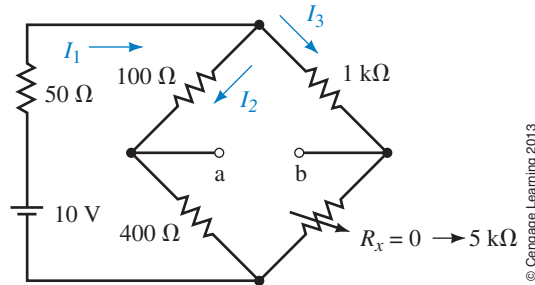

FIGURE 7–59
16. Refer to the circuit of Figure 7–59:
- Solve for all currents and voltage drops in the circuit of Figure 7–60. Verify that the power delivered by the voltage source is equal to the power dissipated by the resistors and the zener diode.